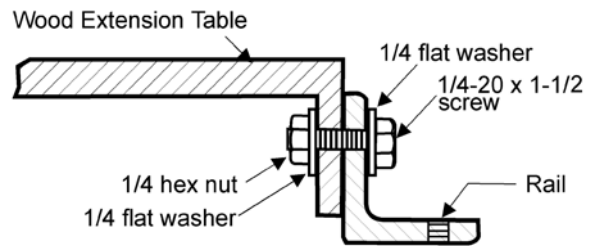

Figure 9
- Install 1/4-20 x 1-1/2 hex cap screws, 1/4 flat washers, and 1/4 hex nuts into the holes in the front and rear edges of the extension table as shown in Figure 9. Finger-tighten only.